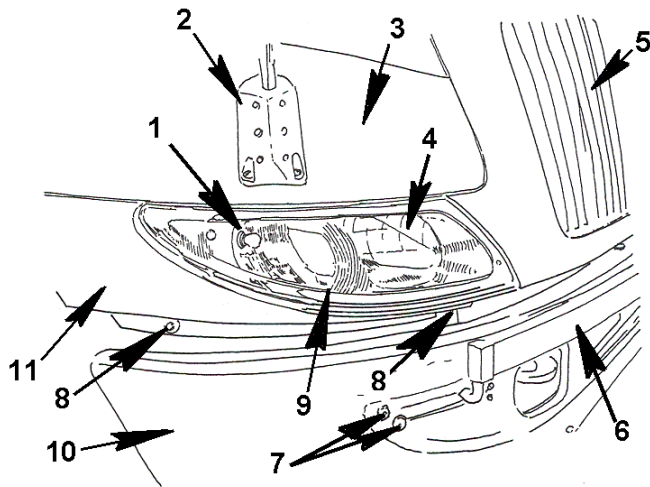

Figure 41 Headlight and Directional Light Assembly
1. Locate the two lower mounting bolts under the headlight housing flange (Figure 41, Item 8).
1. To remove the headlight assembly (Figure 41) refer to the procedure for removing and installing the grille / shroud assembly. The grille and shroud must be removed prior to removing the headlight assembly.